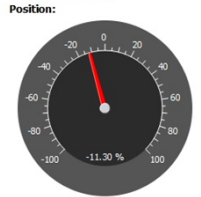

Figure 23. Pushrod at -11.30 %.
18. Raise the push rod on the dilatometer's touch screen until the position is reading -10% to -15%. A typical pushrod read out is shown in Figure 23.
11. Raise the push rod on the dilatometer's touch screen until the position is reading -10 to -15% (refer to figure 23).